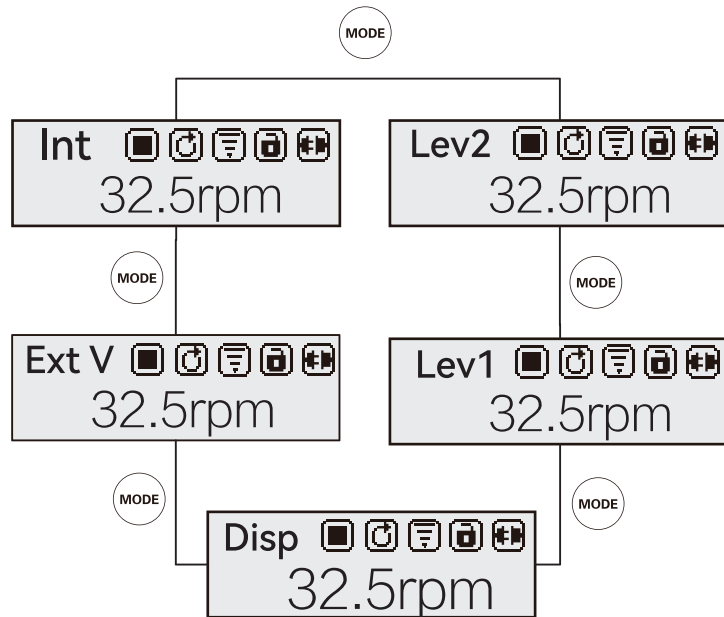

Figure 6 Mode Switching
- Press **MODE** once to switch the mode once. For specific information display logic, refer to Figure 6: